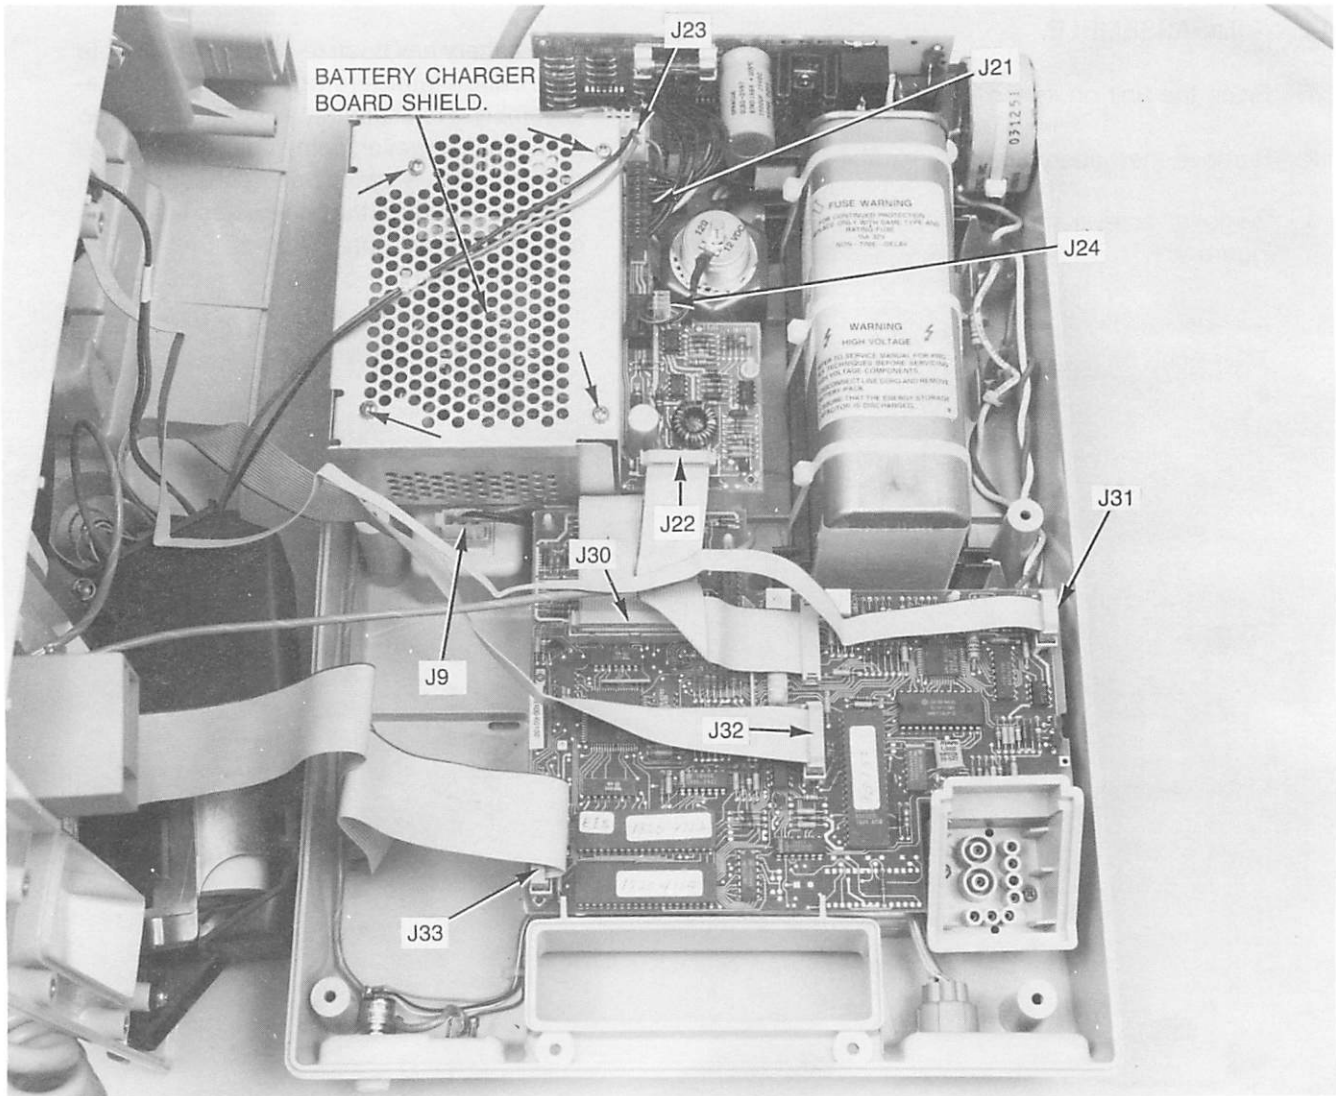

Figure 4-3.
6. For many procedures, the top and bottom sections must be disconnected from each other. If this is necessary, disconnect J23, J31, J32 and J33 in Figure 4-3. The green/yellow ground wire must be disconnected from the grounding screw near the energy switch in the top section.
2. Remove the battery charger circuit board shield by removing the four screws indicated by the arrows in Figure 4-3.
4. Disconnect J9, J21, J22, J23 and J24 (see Figure 4-3).
2. Refer to Figure 4-3. Disconnect J21. To remove the board, grasp the upper corners and lift. The board is a rather tight fit and it may be difficult to get it loose.
1. Refer to Figure 4-3. Disconnect J22, J30, J31, J32 and J33.